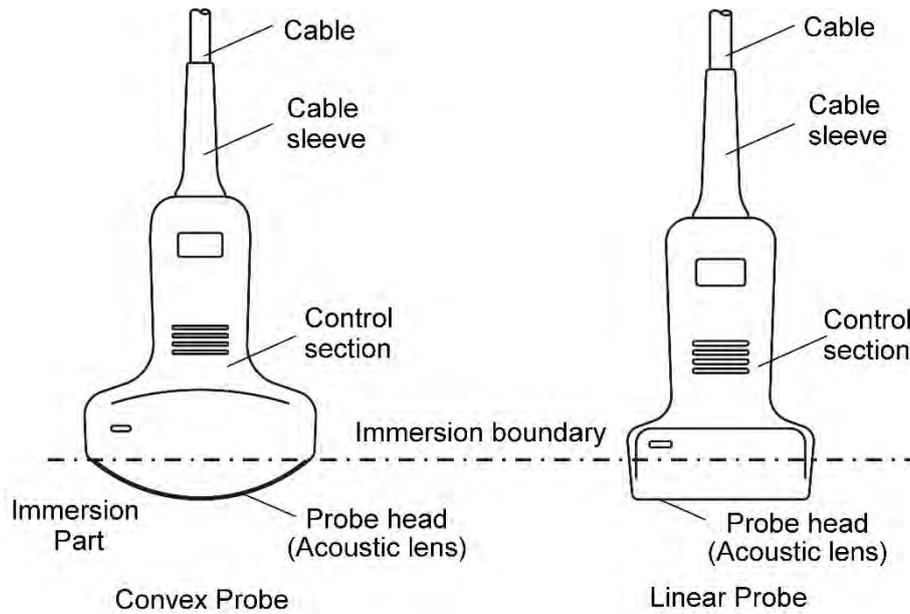

Fig.3-3 Probe structure
See Fig. 3-3 for the outside structure of the configurable convex and linear array probes.
- g) The probe cannot be immersed into water over the water immersion boundary, as shown in Fig. 3-3. The watertightness category of the probe is IPX7. Accidental immersion of the probe in water over the immersion boundary may cause malfunctions or problems. Should such problems occur, please contact our service personnel immediately.